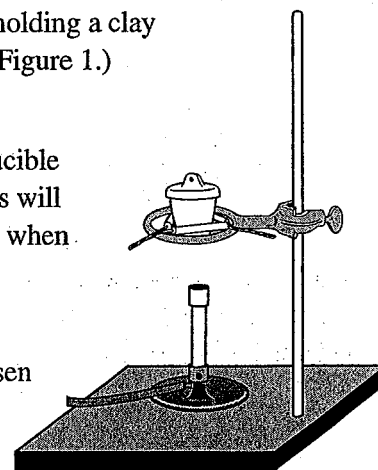

Figure 1.
1. Set up a Bunsen burner on a ring stand beneath a ring clamp holding a clay pipestem triangle. Place the crucible in the clay triangle (See Figure 1.) Do NOT light the Bunsen burner.